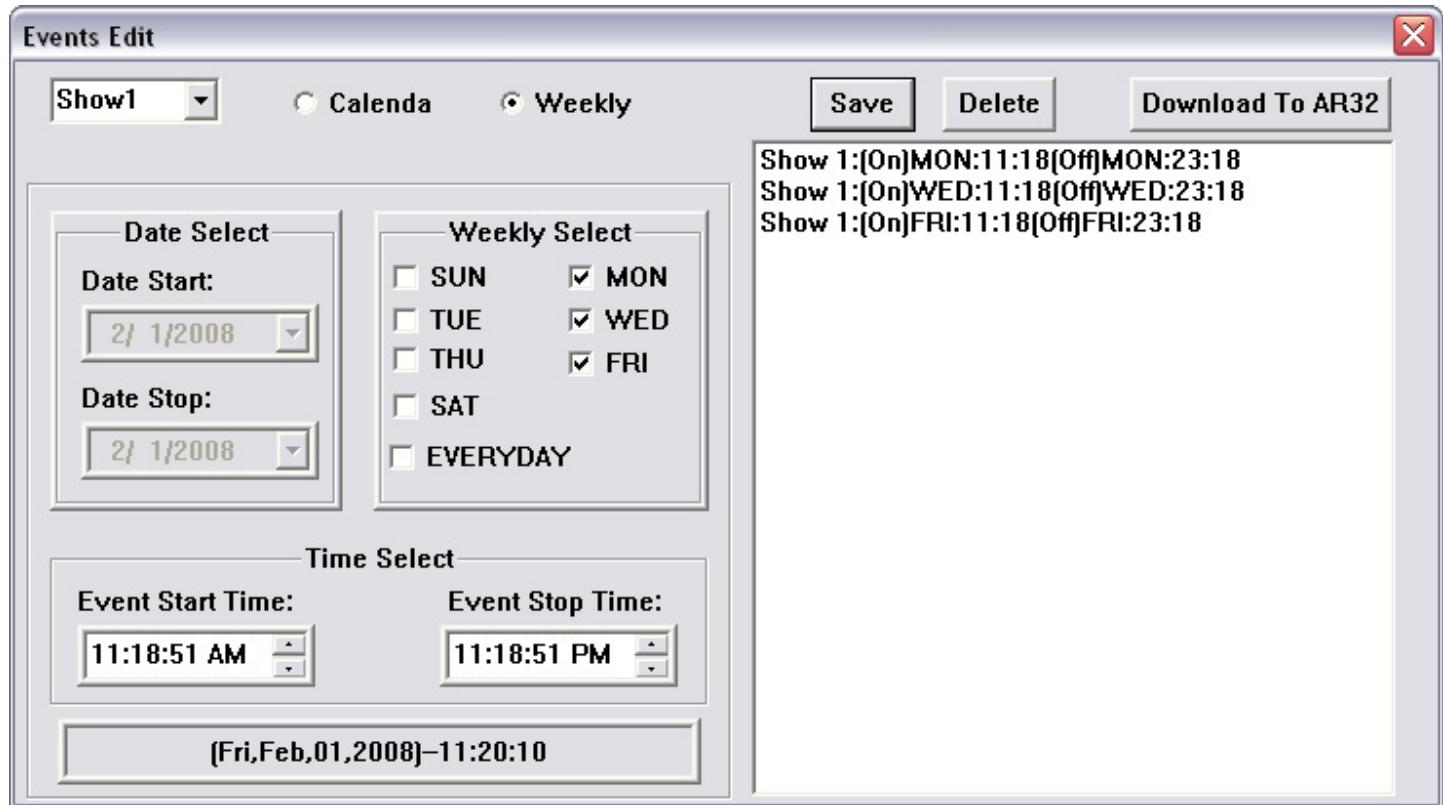

Figure 27
1. Select the days (or everyday) for the show to play from the Weekly Events area (Figure 27).